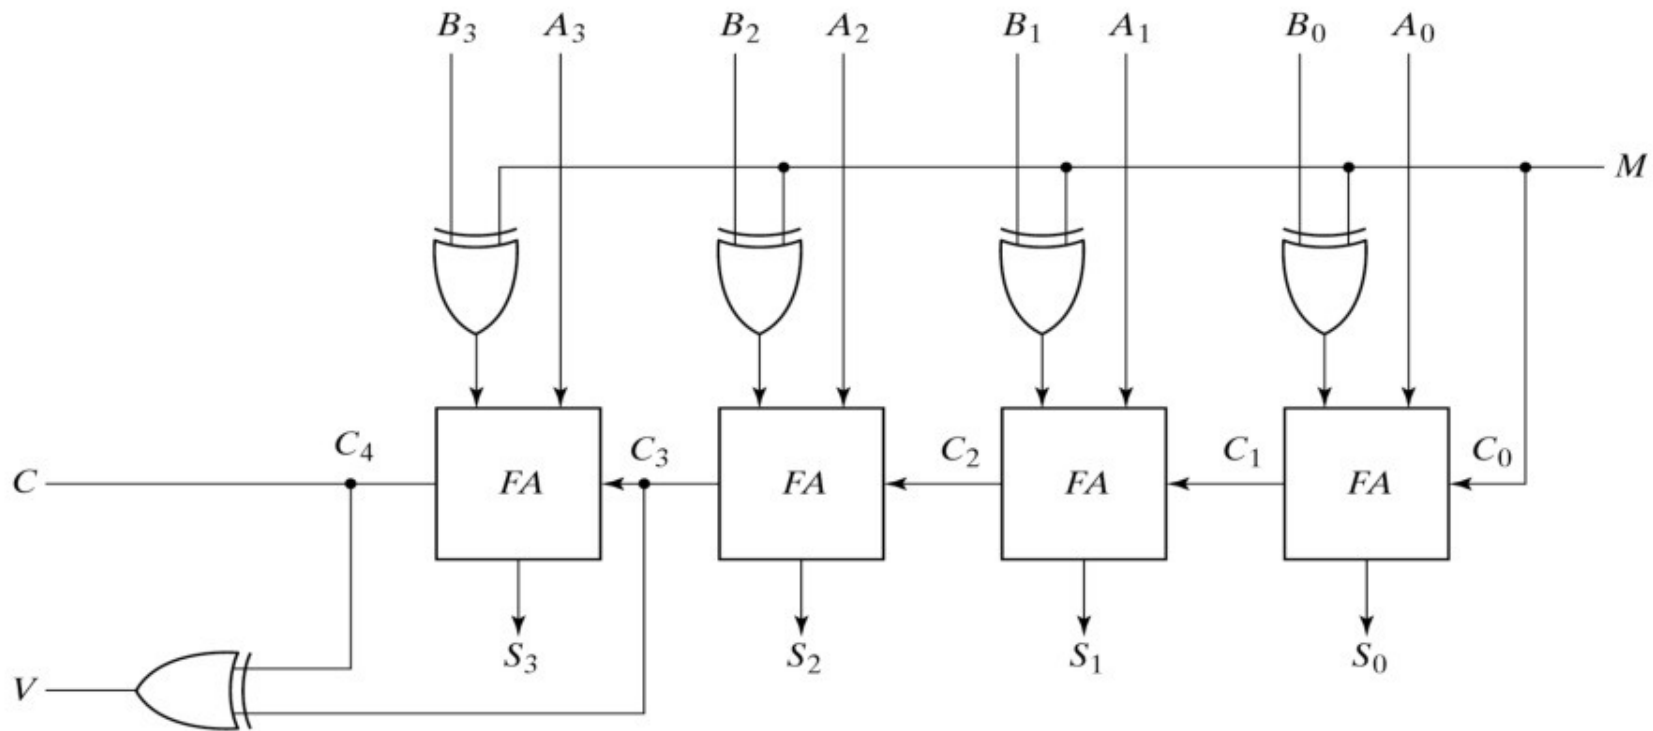

Fig. 4-13 4-Bit Adder Subtractor
- It is **worth** noting Fig.4-13 that binary numbers in the **signed-complement system are added and subtracted** by the same basic addition and subtraction rules **as unsigned numbers**.